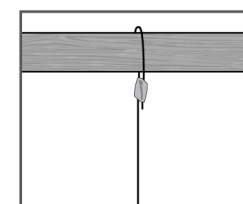

FIGURE 13: REMOVE KEY
10. Remove key and re-secure the load. (See figure 13).